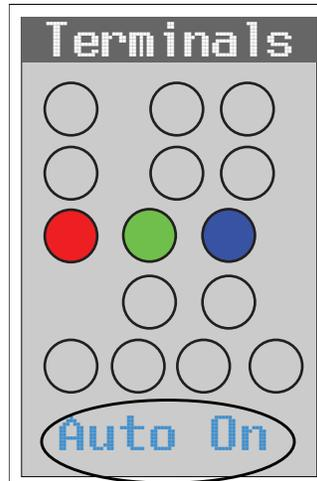

Figure 17. RCD Terminals Field Showing Reconnection Status.
3. Using the cursor keys or rotary knob, highlight **Automatic reconnection** and either push the **Select** softkey or push in the rotary knob. See Figure 17.